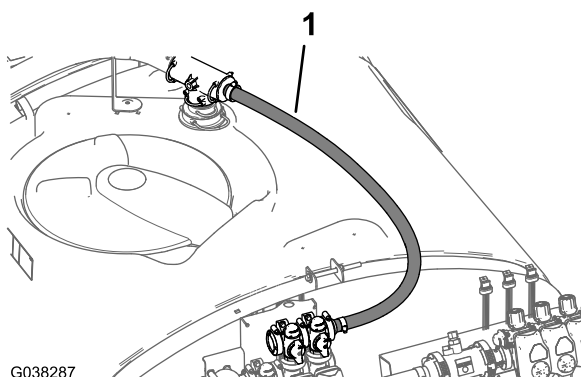

Figure 69
3. Route the bypass hose to the bypass valve located above the master-spray valve as shown in Figure 69.
5. Secure the straight barbed fitting to the bypass valve (Figure 69) with a flange clamp—40 to 64 mm (1-9/16 to 2-1/2 inches).